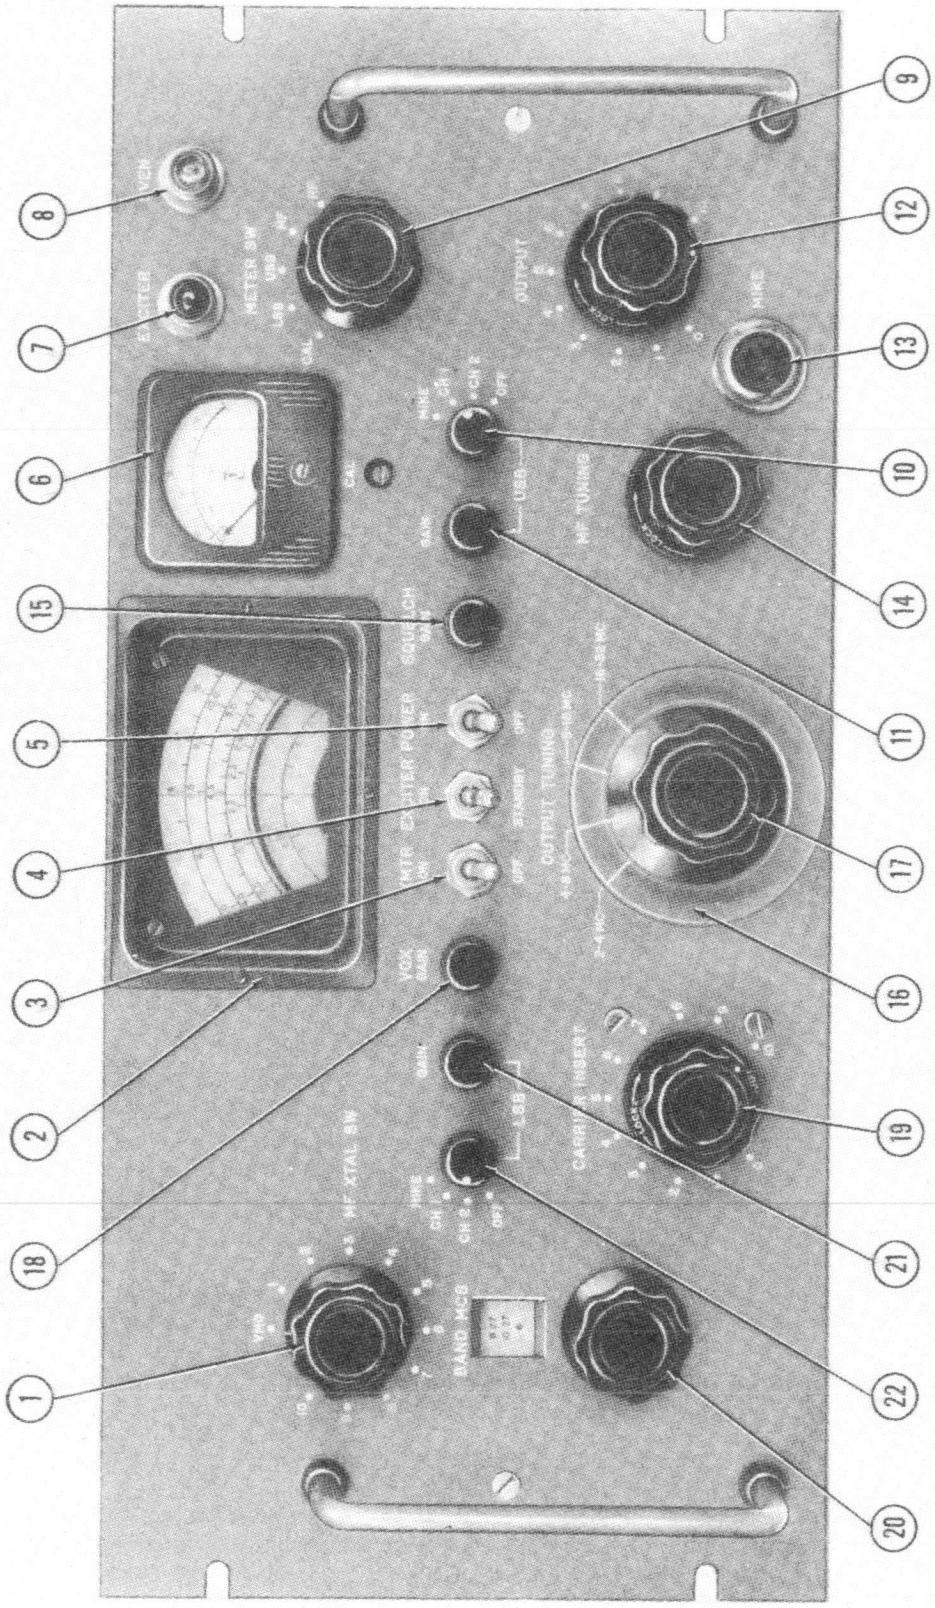

Figure 3-1. Operating Controls
b. Set the CARRIER INSERT potentiometer (ref. 19, figure 3-1) to position 10.
c. Set the MF XTAL SW (ref. 1, figure 3-1) to the VMO position.
a. POWER ON-OFF S103 is a toggle-switch control designated 5 on figure 3-1. ON, applies line voltage to power supply. OFF, turns SBE off entirely.
b. LSB S102 is a switch control designated 22 on figure 3-1. Selects audio input source for lower sideband channel.
c. LSB GAIN R169 is a potentiometer control designated 21 on figure 3-1. Adjusts level of LSB audio input.
d. USB S101 is a switch control designated 10 on figure 3-1. Selects audio input source for upper sideband channel.
e. USB GAIN R168 is a potentiometer control designated 11 on figure 3-1. Adjusts level of USB audio input.
f. OUTPUT TUNING KNOB S106 is part of switch control designated 17 on figure 3-1. Selects output frequency band. The associated outer disc designated 16 tunes the RF output circuits that are a part of the 2- to 32-mc HF section.
g. MIKE J101 is a connector control designated 13 on figure 3-1. Input jack to audio pre-amplifier for all high impedance microphones.
Front panel control R106 (CARRIER INSERT), designated 19 on figure 3-1, selects any degree of carrier insertion from -55 db to full output of the SBE. It does so by taking the required amount of 17-kc output from 17-kc oscillator Z105.
Sideband energy centering around 270 kc is coupled by T107 to pins 2 and 7 of push-pull amplifier V113. A 2- to 4-mc injection is obtained from V115 which, in turn, is fed by the crystal oscillator section or the VMO input from J104. This injection frequency is 270 kc higher than the lower sideband output of the medium frequency modulator. The mid frequency dial (the single-scale dial of control designated 2 on figure 3-1) is calibrated to read directly in terms of the MF injection frequency; however, its associated circuit is actually tuned 270 kc below it by variable capacitors C167A and C167B (knob control 14 on figure 3-1). The grids of tubes V113A and V113B are supplied with 270-kc sideband voltages as well as MF injection voltages, and the lower sideband is passed by the tuned circuits of the modulator. The balancing out of the 2- to 4-mc injection supply is accomplished by MF balance control R130 which varies the gain of the A and B sections of V113; thus, the 2- to 4-mc injection cancels in the primary of T109. The medium frequency modulator serves as the final modulation stage when output frequencies of less than 4.27 mc are required from the SBE. For output frequencies greater than 4.27 mc, its output is further raised in frequency by the high frequency modulator.
Selection of the proper crystal for use with MF XTAL SW S107 (control designated 1 on figure 3-1) is as follows: Suppose the desired RF output of the SBE is 10.235 mc. BAND MCS switch S108 (control designated 20 on figure 3-1; a part of the 2- to 32-mc HF section, refer to paragraph 4-5) shows a multiplying factor of 6 on its dial for an 8.27- to 10.27-mc range. The crystal to be selected by the position of MF XTAL SW S107 should have a frequency of  $2 \times 6 + 0.270 - 10.235$  mc or 2.035 mc. The crystal sockets associated with MF XTAL SW S107 may hold up to 10 crystals, each corresponding to a particular RF output of the SBE.
a. MF XTAL SW S107 is a switch control designated 1 on figure 3-1. Selects either external oscillator (VMO) or proper crystal for mid frequency oscillator.
b. MF TUNING C167A and C167B is a variable capacitor control designated 14 on figure 3-1. Tunes MF (2- to 4-mc) modulator and is associated with the single-scale dial of control designated 2 in figure 3-1.